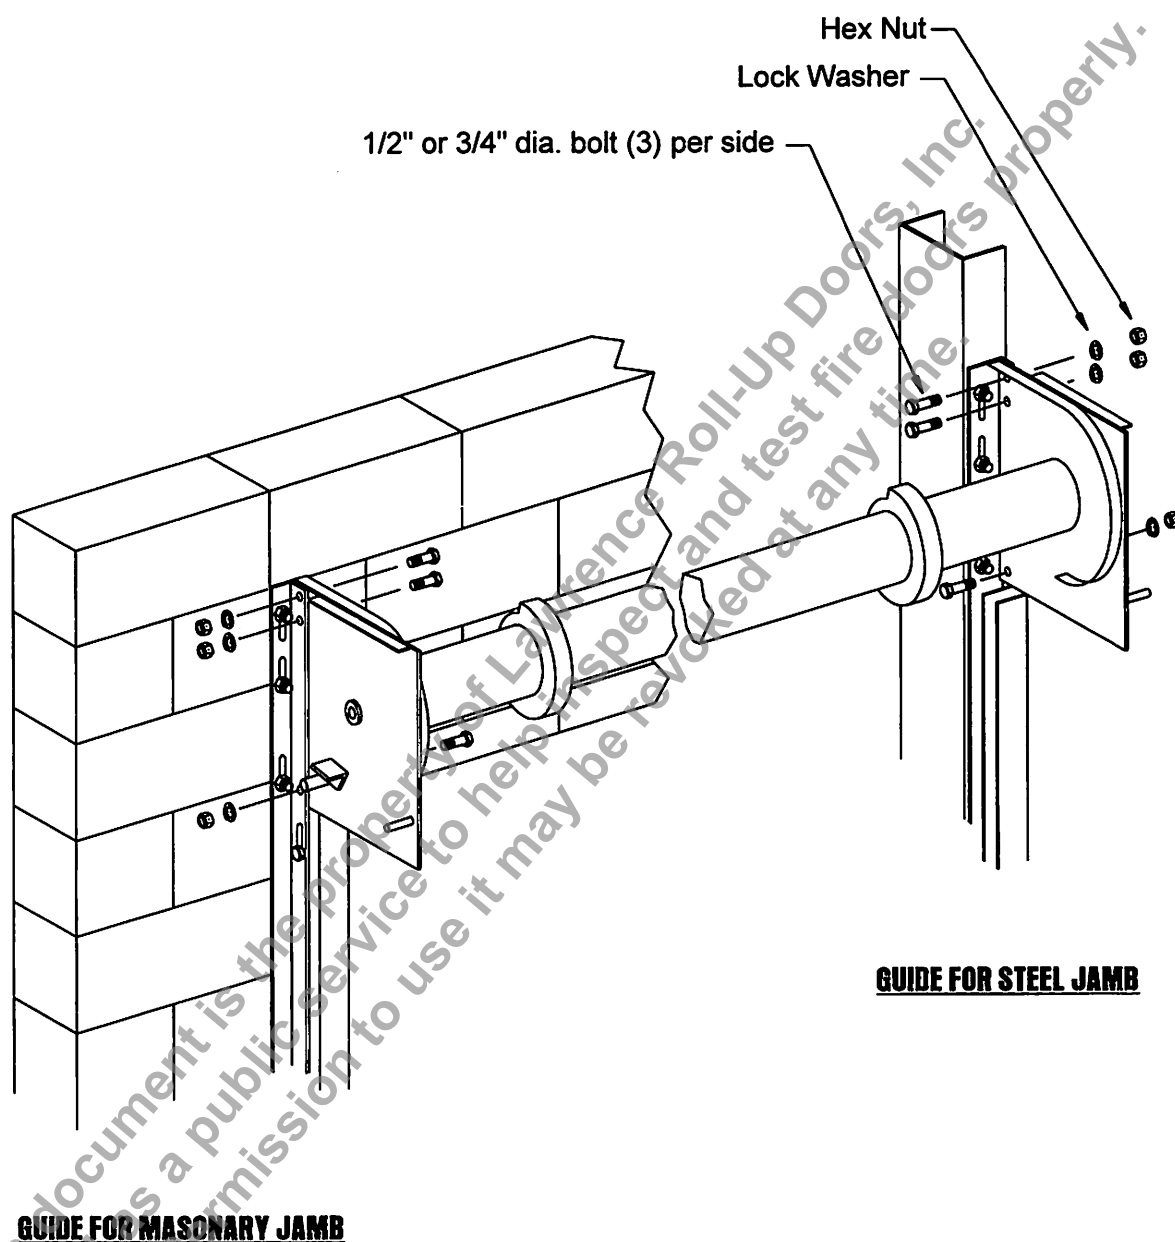

FIGURE 4
Step 4. Raise the barrel and brackets into position and bolt the brackets to the inside of the guide wall angle as shown in Figure 4.